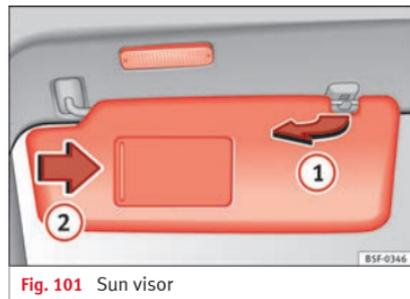

Fig. 101 Sun visor
- The sun visor can be pulled out of its mounting and turned towards the door »» Fig. 101 ①.